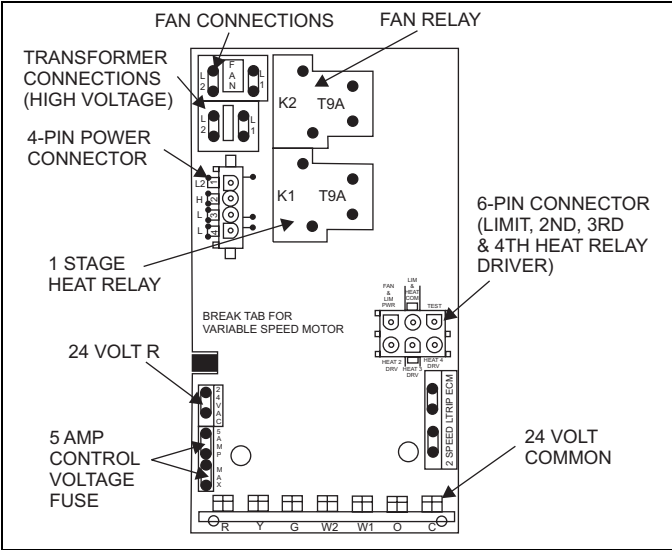

FIGURE 9: Control Board
The low voltage transformer and fan / heater control, are standard on all models. See Figure 9. The air handlers are shipped pre-wired to operate as cooling only applications. To complete the installation for cooling only, install the 6-pin jumper plug to the control board to bypass the heater limit controls. This jumper plug is secured to the duct cover near the 4-pin power plug harness. Failure to install the plug will cause the blower to run continuously. (See Figure 9).
1. Remove the 4-pin power plug from the control board (See Figure 9).